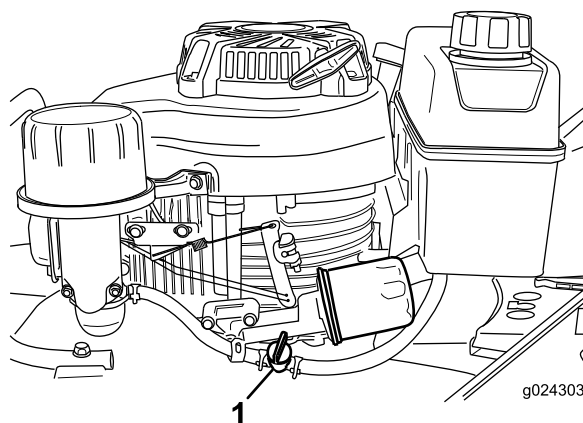

Figure 12
2. Open the fuel valve (Figure 12).
**Note:** Close the fuel valve (Figure 12) if you will not be starting the engine soon afterward.